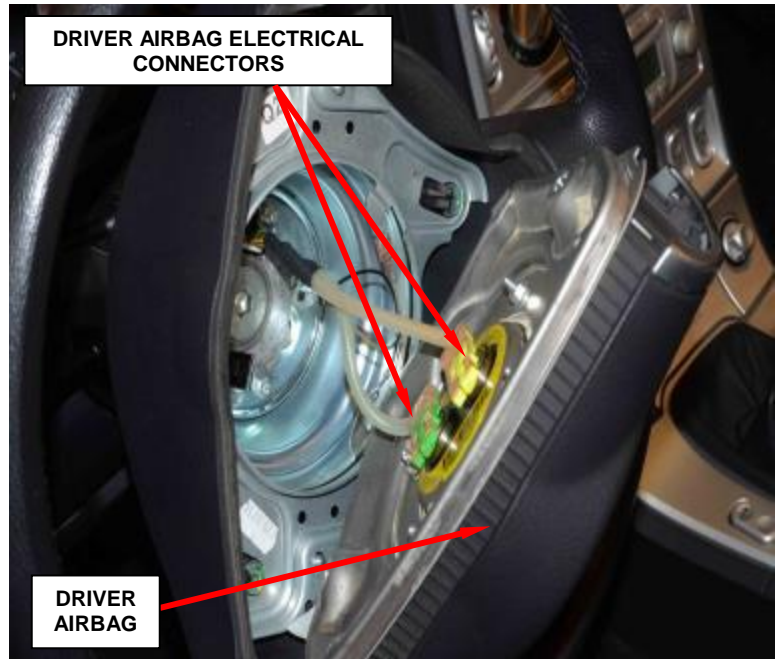

Figure 2 – Driver Airbag Electrical Connectors
3. Pull the driver airbag away from the steering wheel far enough to access the driver airbag electrical connectors to the steering wheel (Figure 2).
5. Disconnect the driver airbag electrical connectors (Figures 2 and 3).
21. Position the driver airbag close enough to the steering wheel to connect the two driver airbag electrical connectors (Figures 2 and 3).